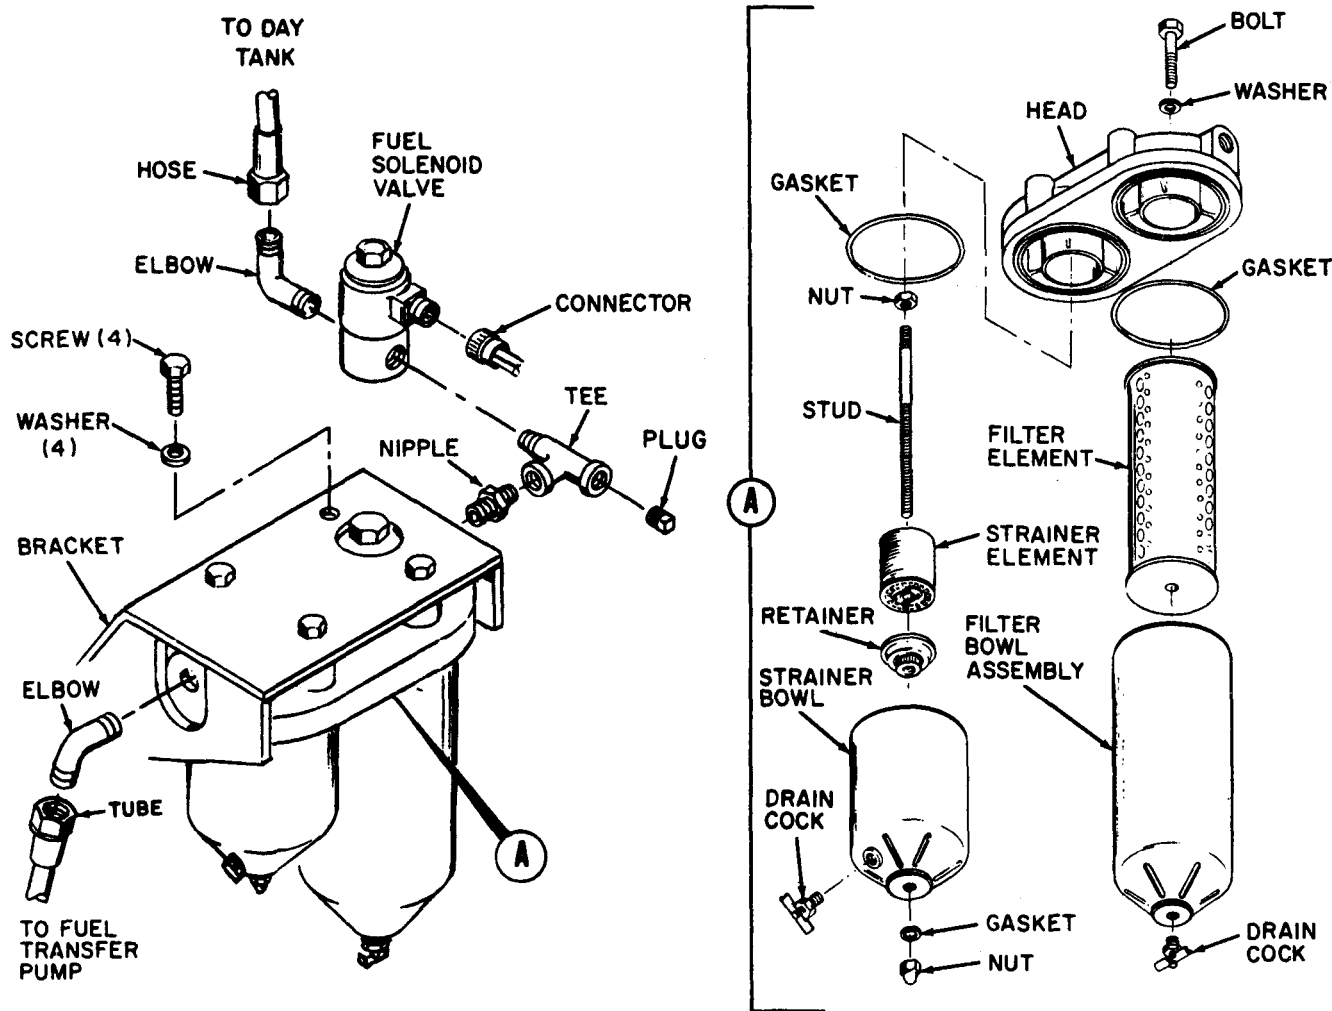

Figure 3-36. Fuel filter and strainer assembly and fuel solenoid valve, exploded view
b. FUEL FILTER AND STRAINER SERVICE. To service fuel filter and strainer assembly, refer to figure 3-36 and proceed as follows:
c. REMOVAL AND DISASSEMBLY. Remove fuel solenoid valve and remove and disassemble fuel filter and strainer as illustrated in figure 3-36, observing the following:
Reassemble and install filter and strainer assembly and install fuel solenoid valve as illustrated in figure 3-36, observing the following: